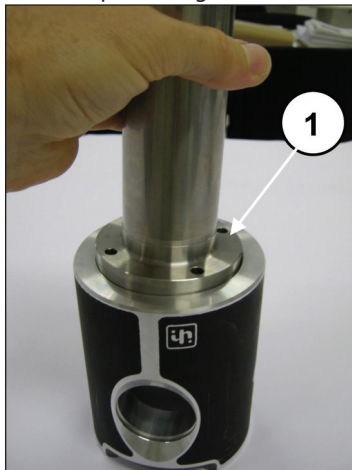
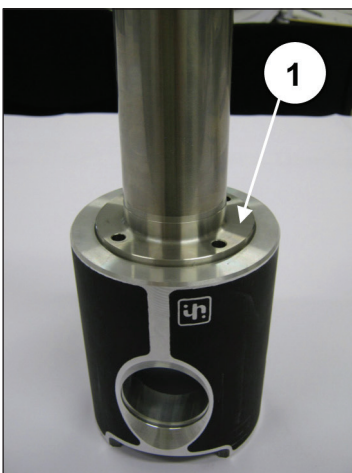

Fig. 39
Fig. 40
Insert the piston guide rod into its seat on the piston guide (pos. ①, Fig. 39) and fix the rod to the piston guide by means of the 4 M6x20 screws (pos. ①, Fig. 40).